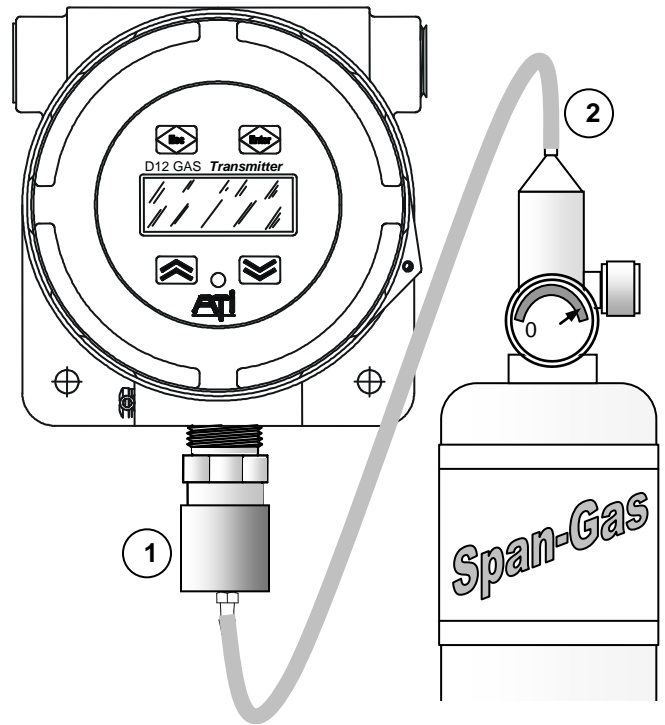

Figure 30 Span calibration
Span calibration* requires a cylinder of “span” gas with a 500 cc/min regulator, calibration adapter, and a convenient length of ¼” tubing. Referring to Figure 30: screw the calibration adapter onto the exposed end of the sensor and connect one end of the tubing (1), connect the other end of tubing to the cylinder’s regulator (2). Do not open the gas valve until instructed below.